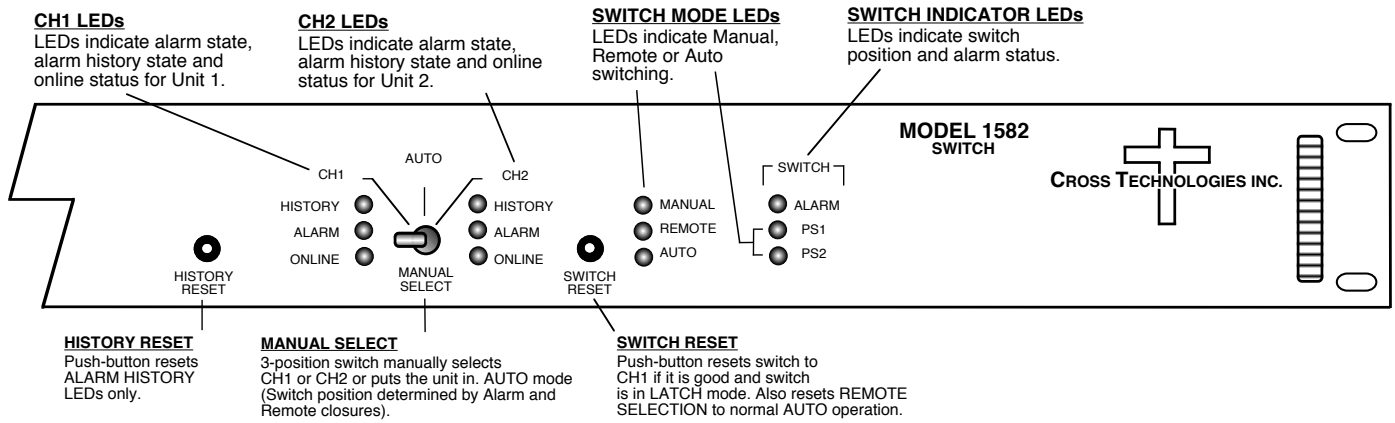

FIGURE 2.3 1582-1650 Front Panel Controls and Indicators
Figure 2.3 shows the front panel controls and indicators.
1. Set the on board controls as desired (Tables 2.0, 2.1, Figure 2.3).